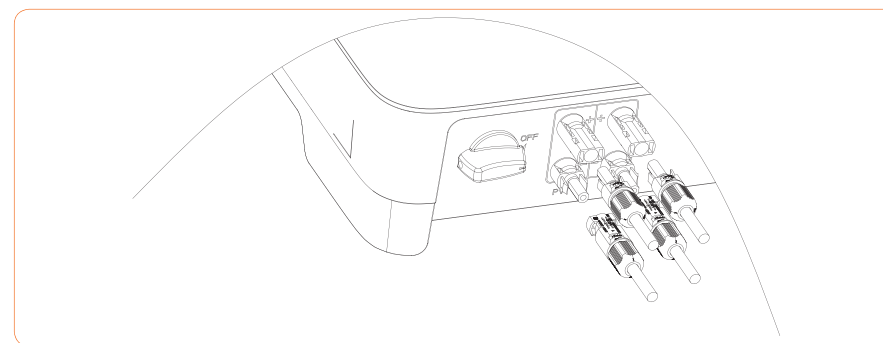

Figure 4-18
- ① Before assembling the DC connector, make sure that the cable polarity is correct.
- ② Use a multimeter to measure the voltage of the DC input string, verify the polarity of the DC input cable, and ensure that each string voltage is within 600V.
3. Insert the positive and negative connectors into the inverter DC input terminals respectively, a click sound should be heard if the terminals are well connected, as shown in Figure 4-18: